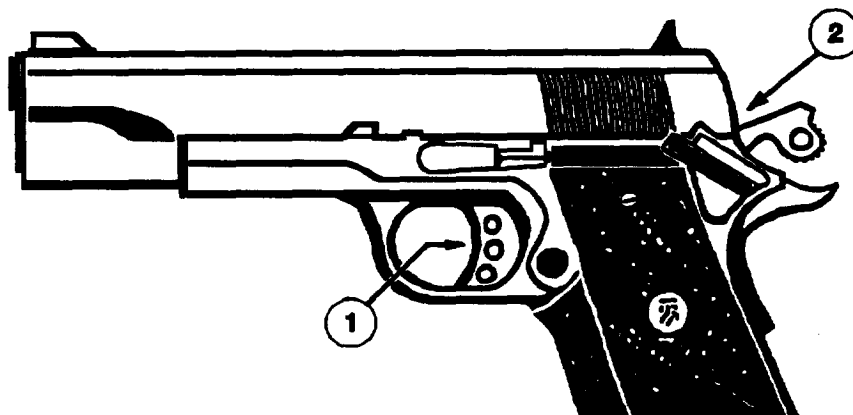

Figure 3-2. Checking The Weapon
c. Inspect Chamber. Tilt the pistol and inspect the chamber (4) for the presence of live round or empty cartridge. Visually view and physically insert finger to check the chamber. Remove any live round or empty cartridge from the chamber. Do not leave rounds in magazine for extended periods of time.
d. On Safe. With the right thumb, push down on the slide stop to allow the slide assembly to return to the forward position. Pull the trigger (1), Figure 3-2, on a cleared pistol. The ambidextrous thumb safety (2) can be moved to the SAFE position only when the hammer is *cocked*.